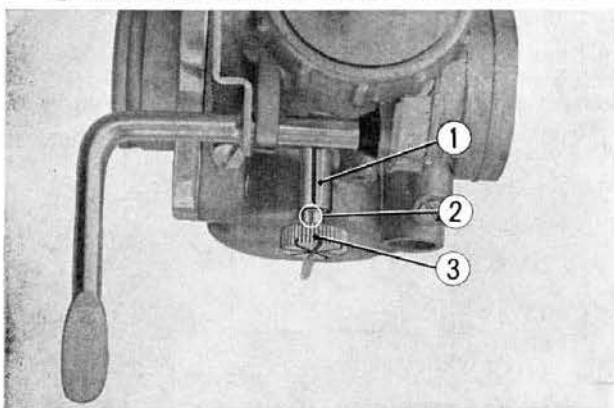

Fig. 6-13 ① Index mark ③ Throttle stop screw
c. Adjust the throttle stop screw to align the "T" mark to the index mark stamped on the carburetor body. Perform adjustments on all carburetors. (Fig. 6-13)